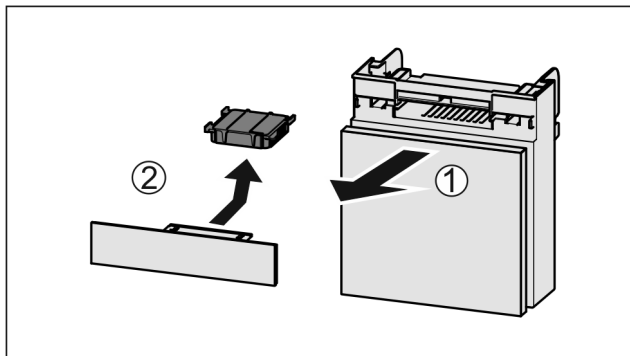

Fig. 200
- Pull out the compartment Fig. 200 (1).
- Remove the carbon filter Fig. 200 (2).